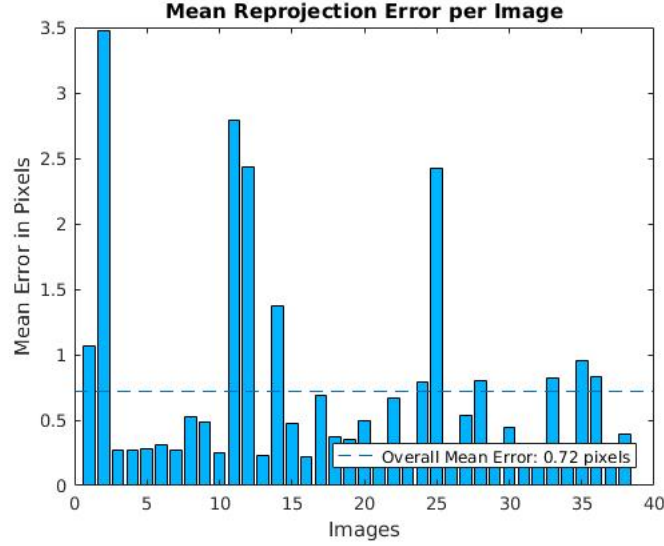

Figure 3: Mean Reprojection Error per Image
- Reprojection errors is the distance between a pattern keypoint detected in a calibration image, and a corresponding world point projected into the same image, shown at figure 3.